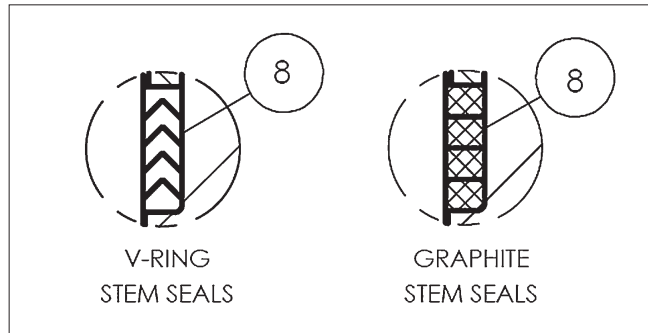

Figure 9. Stem Seal Orientation
8. Insert the stem (4) through the insert end of the body (1), being careful not to scratch the stem sealing surface; and press it gently up into the stem bore until resistance is felt from the thrust bearing. Holding the stem in place from the bottom and insert the stem seals (8) (see **Figure 9**) for proper v-ring orientation), over the stem (4).
- Insert the stem subassembly into the *Emission-Pak* housing (101). Pull the stem outward to seat the thrust bearings. Install one set of stem seals (104) and lantern ring/spacer (103) over the stem as shown in (**Figure 9**). For optimal performance, pre-compress the first set of stem seals.
- Install the compression ring (111) and compression plate (20) over the stem. Using stud nut (30), apply the torque value listed in (**Table 2**).
- Install the top set of stem seals (104) over the stem as shown in (**Figure 9**).
- Hold the stem in place and slide the compression ring (111) and compression plate (20) over the stem (4) and studs (29).